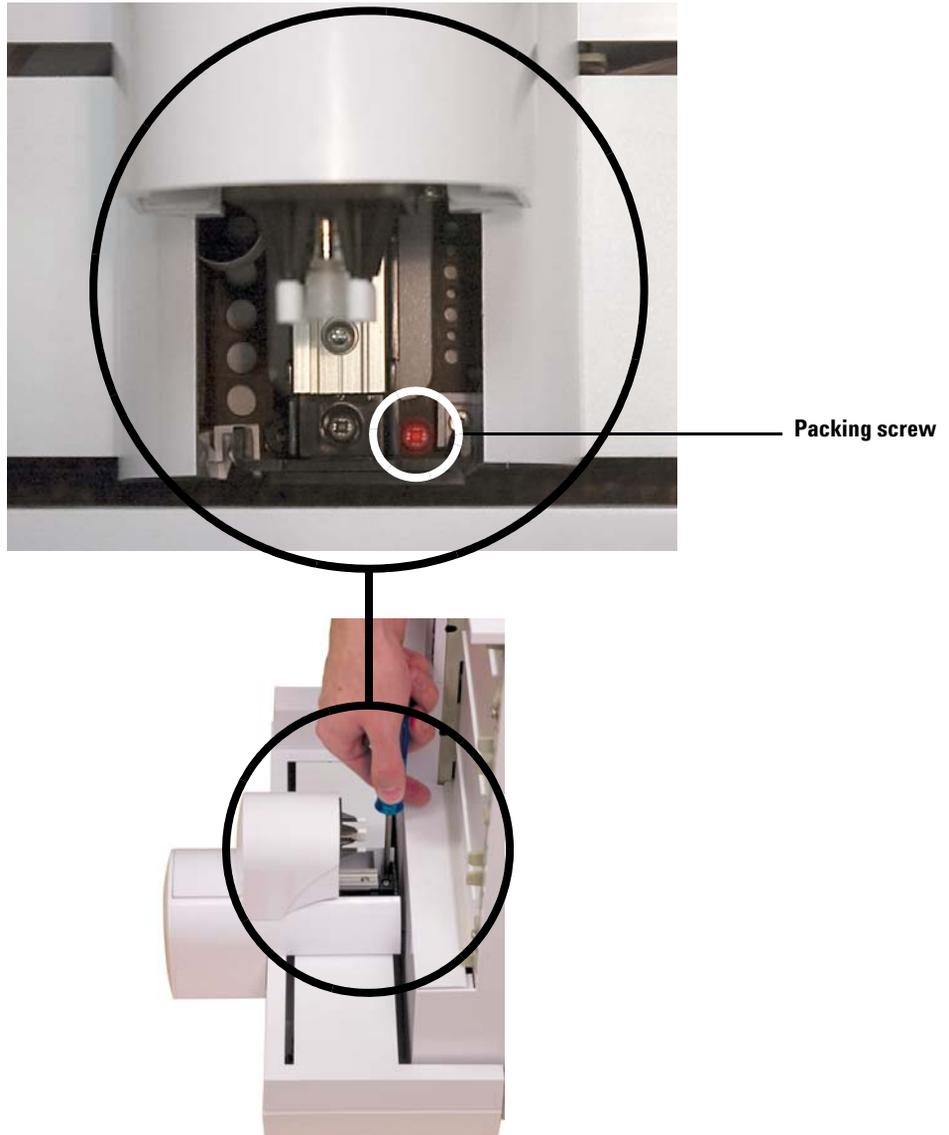

Figure 11 Removing the packing screw from the gantry assembly
- 9 Remove the packing screw using a Phillips screw driver and tweezers (Figure 11).